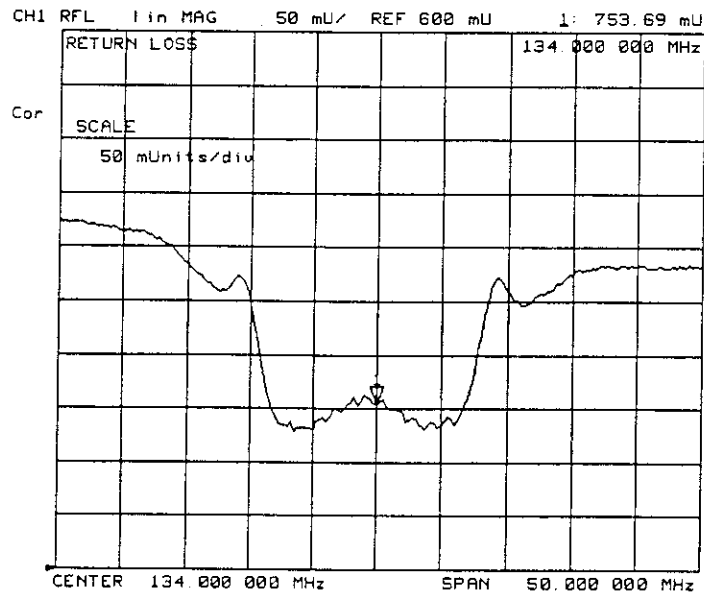

Figure 2-10. Example Reflection Coefficient Measurement Trace
2. Press **FORMAT** **LIN MAG** **SCALE REF** **AUTO SCALE** so the analyzer shows the same data in terms of reflection coefficient, as shown in Figure 2-10.